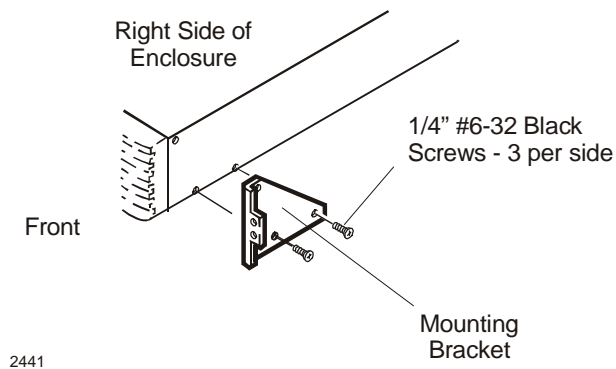

Figure 23. Attaching Mounting Brackets
1. Attach the mounting brackets on both right and left sides of the controller enclosure with three counter-sunk 1/4" #6-32 Phillips flathead screws on each side, as shown in Figure 23.